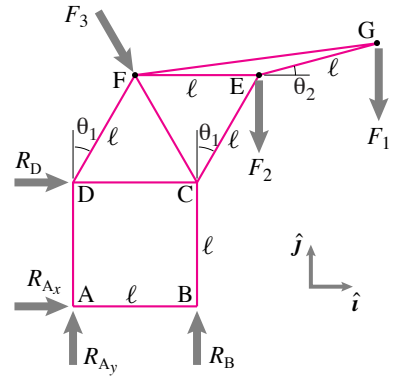

Figure 6.78: The free-body diagram of the structure.
**Solution** The free-body diagram of the truss is shown in Fig. 6.78. We need to find the support reactions  $R_{Ax}$ ,  $R_{Ay}$ ,  $R_B$ , and  $R_D$ .